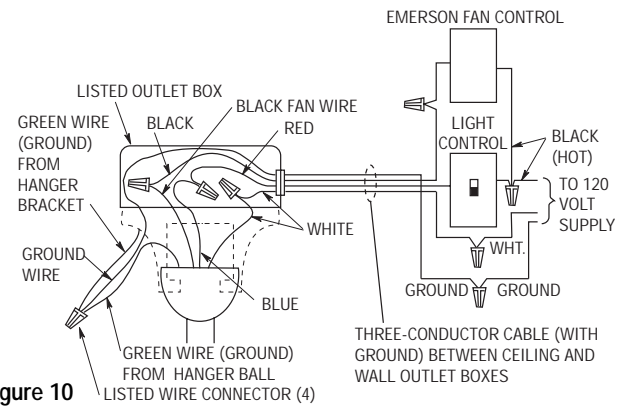

Figure 10
2. If you are going to use two wall switches or Emerson Fan/Light Controls, you will need a three-wire (with ground) conductor cable between the ceiling and wall outlet boxes. This will allow you to operate the uplight and optional Emerson Light Fixture (if installed) from one switch/control and the ceiling fan from a separate switch/control. (Refer to the Emerson Fan/Light Control Owner's Manual.) Refer to Figure 10 and proceed as follows: